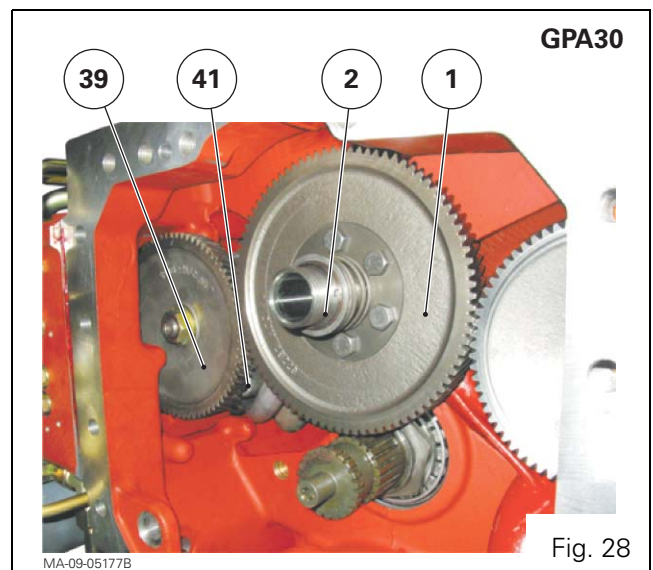

Fig. 28
- the gears (1) and (39) (Fig. 28) (GPA30);